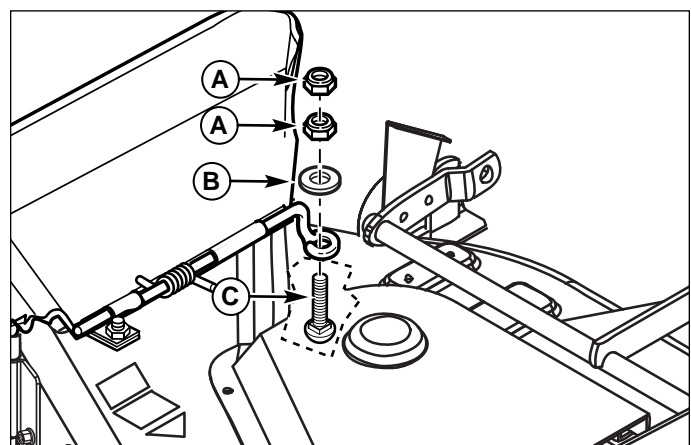

Figure 6. Carriage Bolt Installation
8. Install 1/4-20x 1-1/2 carriage bolt (C, Figure 6) securing with 1/4 washer (B) and one 1/4-20 locknut (A) as shown. Connect second 1/4-20 locknut (A) to carriage bolt (C) until the top of the locknut (A) is flush to the top of carriage bolt (C).